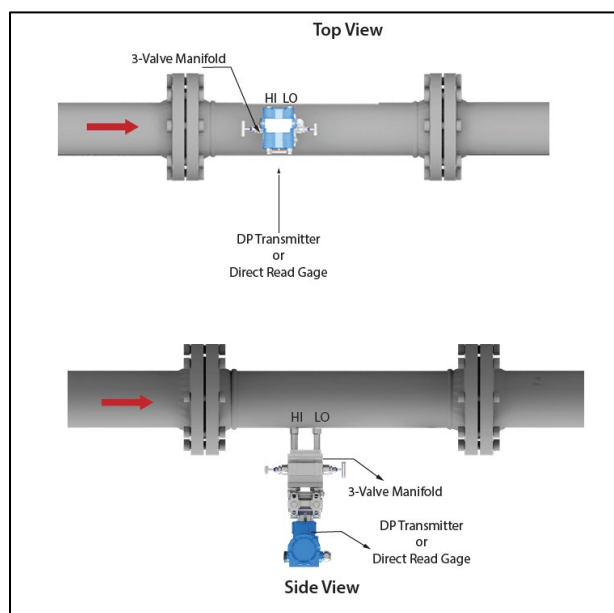

Fig 18: Horizontal Installation for Liquids
- The pressure taps should be between the center of the horizontal line and 60° below the centerline (3 o'clock to 5 o'clock or 7 o'clock to 9 o'clock) shown in figure 18.